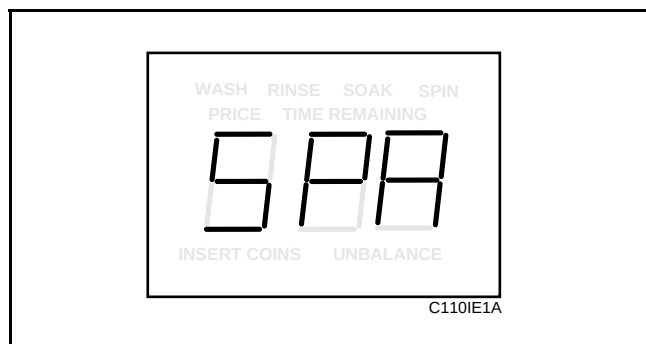

Figure 17
3. Press the DELICATES (+) pad or the COLD (-) pad to scroll through the programmable options until “SPA” appears in the VFD. See **Figure 17**.